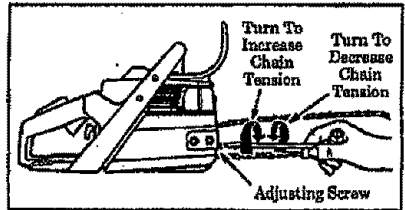

Figure 10
- Turn the Adjusting Screw (Figure 10) counter-clockwise to move the Adjusting Pin (Figure 8) almost as far as it will go to the rear.
1. Lift up the tip of the Guide Bar and turn the Adjusting Screw clockwise until the chain does not sag beneath the Guide Bar. Figure 10.